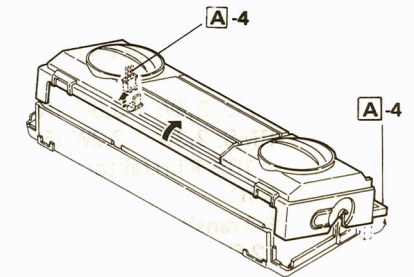

Figure 6-2
4. Raise up the handle as shown in Figure 6-2, and pull out the front cabinet by holding its both sides. At the time, disconnect the speaker socket from the audio P.W.B.